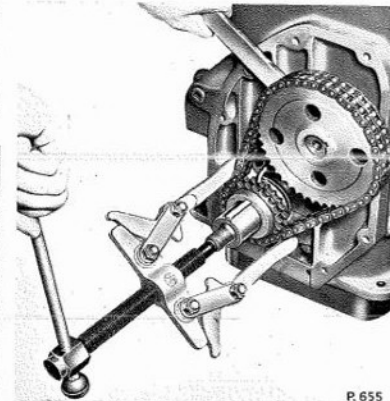

Fig. B.26. Withdrawing the timing wheels and chain, using the Churchill Tool 6312A to facilitate crankshaft timing wheel withdrawal
5. To withdraw the timing wheels and chain it is recommended that suitable levers be used behind the timing wheels, applying preferably two levers behind the camshaft timing wheel at diagonally opposite points and one behind the crankshaft timing wheel. Alternatively the Churchill Universal Puller 6312A, applied behind the crankshaft timing wheel will facilitate the removal operation (see Fig. B.26). Lever off both wheels simultaneously keeping them in line to avoid straining the chain, until the camshaft timing wheel is free of the camshaft spigot. It is now possible to slip the timing chain off the crankshaft timing wheel, thus allowing the wheel and chain to be lifted clear of the engine. Complete the removal of the crankshaft timing wheel.